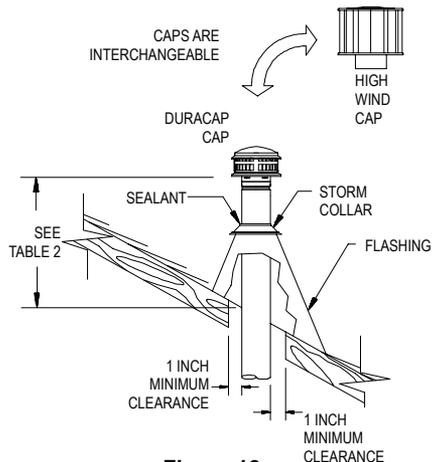

Figure 12
10. Terminations. Where the Pipe Sections pass through the roof, a hole must be cut to provide a minimum clearance (air space) of 1 inch between the Pipe and construction materials. Straight lengths of pipe are run up above the roof a minimum of 1-foot. **(Refer to Table 2)** A Roof Flashing is placed down over the pipe, and adjusted so it fits tightly against the roof, with the Pipe Section held in a position maintaining the 1 inch minimum clearance from combustibles. The Flashing is then nailed to the roof. The roofing material (shingles, asphalt paper, etc.) should overlap the top edge (uphill side) of the Flashing. A non-hardening sealant should be used around the edges of the flashing base where it meets the roof. Non-hardening sealant is placed around the joint between the Flashing and the vertical Pipe Section and the Storm Collar is then placed over this joint, to make a watertight seal. **(Figure 12)** Add sufficient Pipe Sections to attain the minimum height specified in **Table 2 (see next page)**. To connect the Termination Cap to the pipe, hold Cap by its collar, slide collar over locking lugs of pipe, and twist-lock clockwise. Termination Caps of diameters greater than 16 inches do not twist-lock, but are affixed with sheet metal screws.